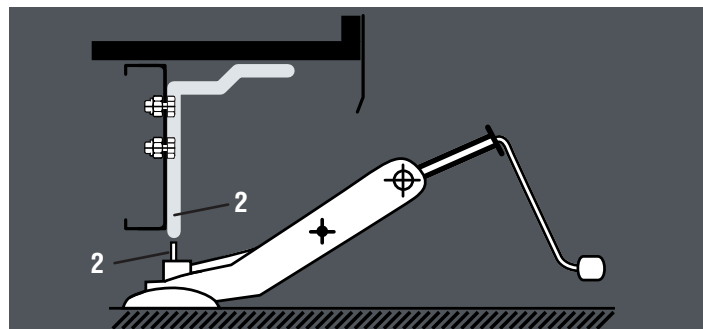

Fig 7 Mounting the jack brackets
- 8 Slot the insert piece (Fig 7/item 1) into the jack mounting bracket (Fig 7/item 2) until it connects.
It is vital that the jack and brackets be lined up as shown in Fig 7 on page 7. The joining section must be directly underneath the bracket, and the joining section must not enter the jack bracket at angle as this could put stress on the bracket and cause it to bend in use.